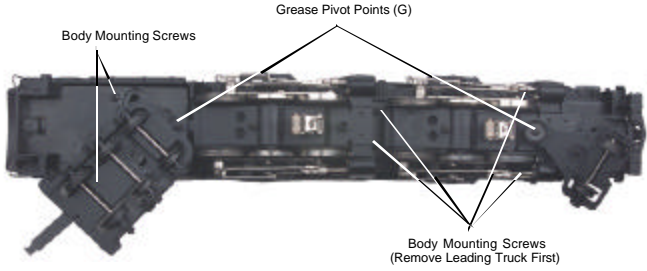

Figure 6: Removing The Body And Lubricating The Grease Points
2. Remove the boiler by removing the body mounting screws shown in Fig. 6
3. Remove the Phillips screw (marked “GREASE”) located at each set of wheels (Fig. 6)
You should also grease the leading and trailing locomotive truck tongues to enhance their ability to slide on the chassis. Follow the grease points shown on Fig. 6.
1. To replace the headlight in this model you will need to follow the disassembly instructions for greasing the engine in figure 6 on pg. 13. Once the boiler has been removed you can access the headlight (see figure 8).
heating element. To remove the smoke unit you will first have to remove the boiler shell (by removing the body mounting screws shown in Fig. 6 on pg. 13).